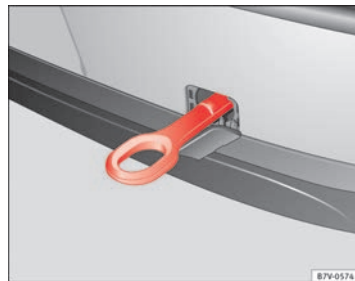

Fig. 221 On the rear bumper, to the right hand side: Tow ring in position
The location for the removable towline anchorage is on the right-hand side of the rear bumper ⇒ Fig. 221. For vehicles with a factory fitted towing bracket, there is **no** fitting behind the cover to insert the towline anchorage. For towing, fit and use the tow hitch ⇒ page 236, ⇒ ①.